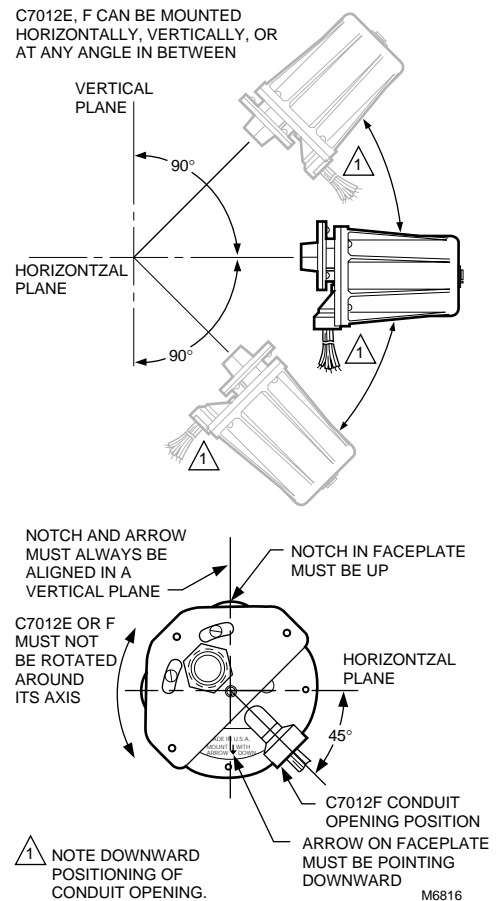

Fig. 6. C7012E,F mounting positions.
The C7012E,F Self-Checking Flame Detectors incorporate an oscillating shutter mechanism and, therefore, require special consideration for mounting positions other than vertically sighting downward or upward. The C7012E has notch and arrow indicators (see Fig. 6) on the faceplate to facilitate mounting. The notch and arrow must be vertically aligned with the notch in the up position and the arrow pointing downward (see Fig. 6). The C7012F must be mounted with the conduit opening located approximately 45 degrees below the horizontal (see Fig. 6).
*The C7012F housing **must** be mounted with the conduit opening approximately 45° **below** **horizontal** (see Fig. 6).*